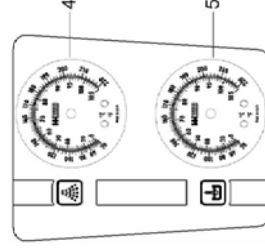

Figure 2
2. Wait for the machine to reach operating conditions. Rinse gauge (4) should read minimum 180° F (83°C) and tank gauge (5) should read minimum 150° F (66°C). (Fig. 2)
To speed up the warm up process, you can run the Dishwasher a couple of times only after the Rinse Gauge (4) is at least 180° F (83°C). (Fig 2)
- Use 5' flexible water supplied hose (Fig. 2)